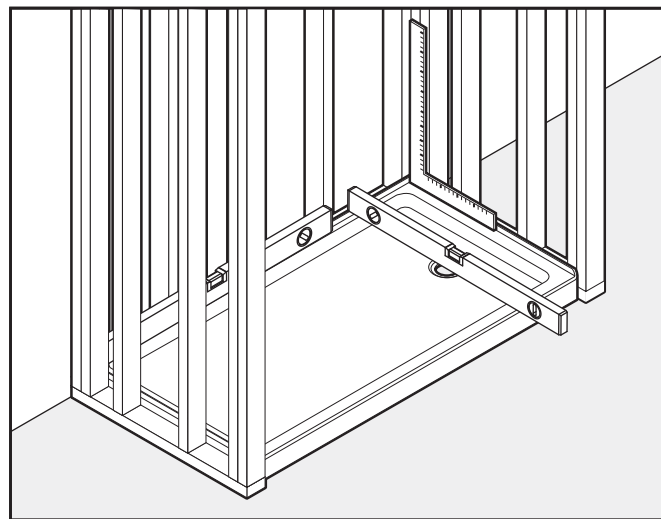

Fig. 2
- If the subfloor is not flat and level, use leveling compound or mortar bed to ensure that the base is level (shown in Step 5). (Fig 2)